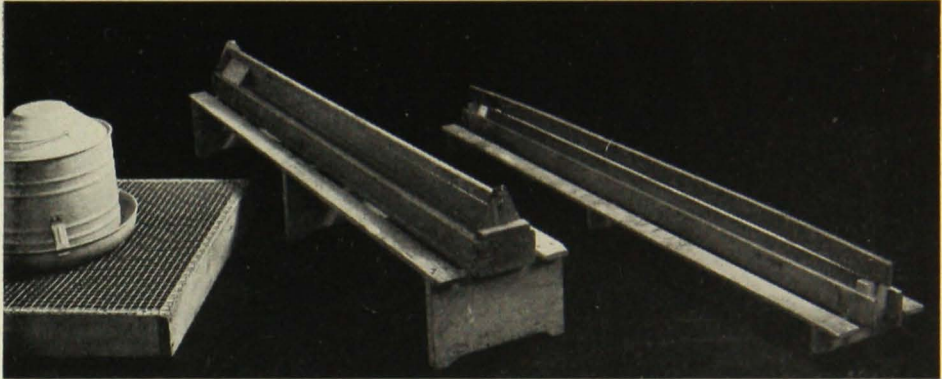

FIG. 2. STANDS INSURE CLEANLINESS
1. Platforms for water fountains keep chicks out of filth that collects around fountains. Use one-inch mesh hardware cloth; 1×2-inch material for frame. (Fig. 2.)
2. Small feeder for first 2 weeks. Use one 4-foot feeder for each hundred chicks. The feeder is made of 4 laths, the center one set between two finishing nails in each end. (Fig. 2.)
3. Reel feeder—2 weeks to 3 months. Use one 4-foot feeder for each 50 to 75 chicks. (Fig. 2.)